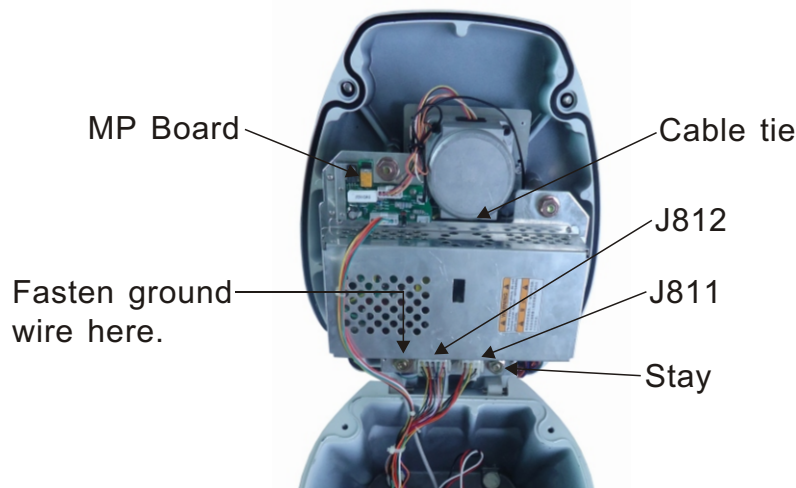

Figure 6-13 Antenna unit, cover opened
4. Open the antenna housing cover and fix the stay as shown in Figure 6-13.
5. One end of the cable with 3- and 8 way plugs has already been connected to RD-AP-1568 inside the scanner housing. Transceiver control signal with jacks J812 and J811 on the transceiver module, respectively. Connect the 7-way plug to jack J801 on the MP Board. Secure the cable between RD-AP-1568 and J801 with the cable tie as shown in Figure 6-13.